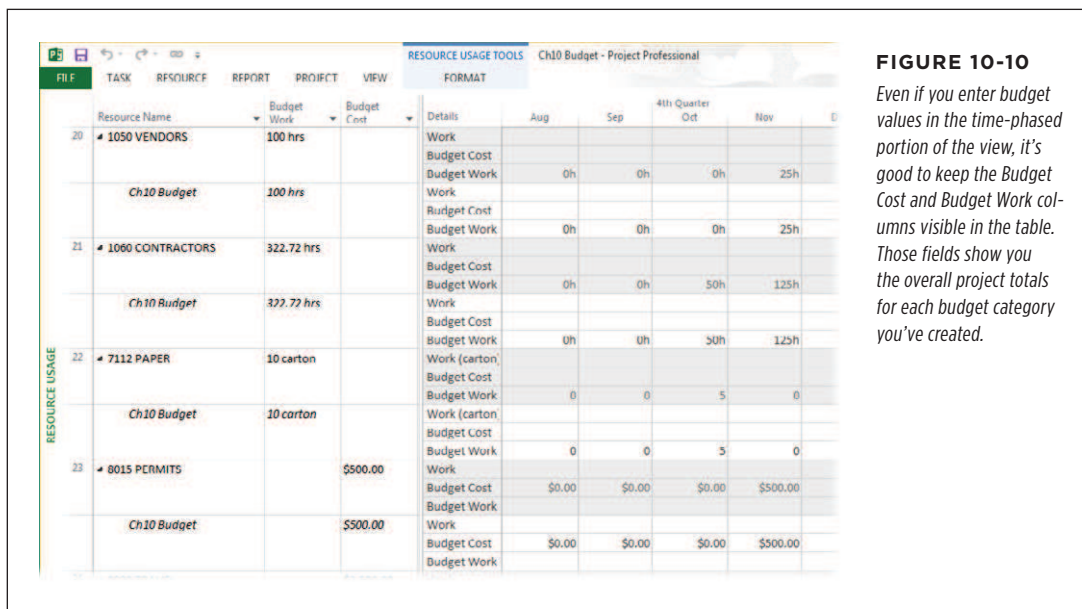

FIGURE 10-10
5. In the cell at the intersection of the row for a budget resource’s Budget Cost or Budget Work field and the column for the time period you want, type the budget cost or work amount, as shown in Figure 10-10.